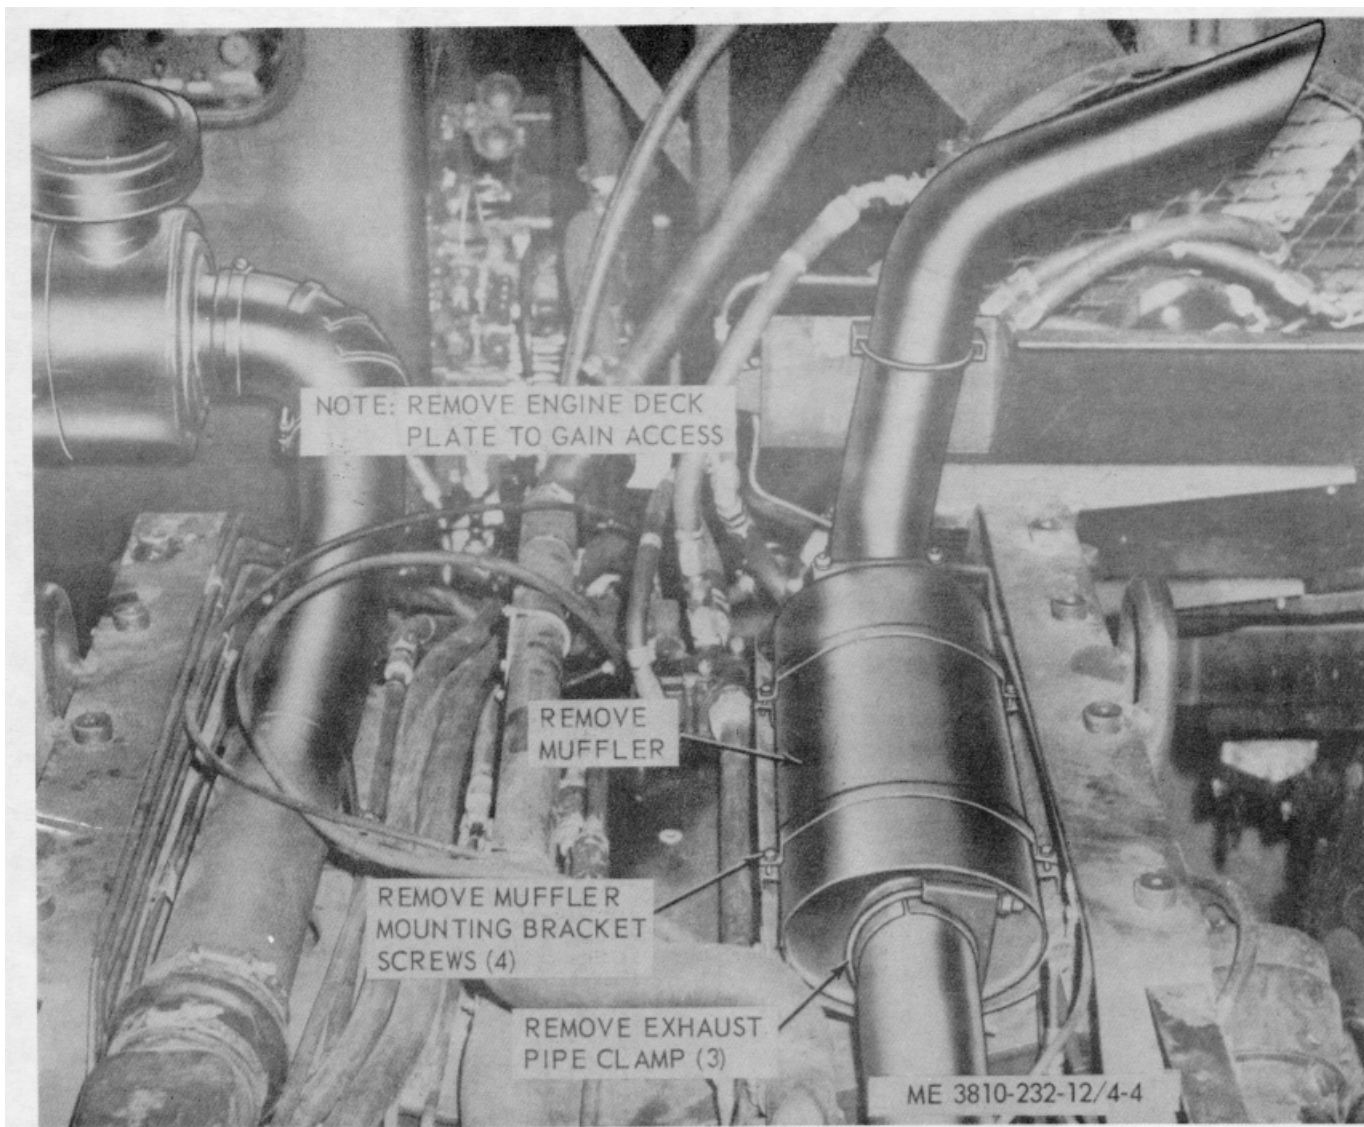

Figure 4-4. Carrier engine exhaust assembly, removal and installation (Model 2385)
- (1) Remove engine deck plate.
- (2) Refer to figure 4-4 and remove muffler mounting bracket screws and exhaust pipe clamps.
- (1) Install muffler and secure exhaust pipe clamps (fig. 4-4).
- (2) Install muffler mounting bracket screws and replace engine deck plates.